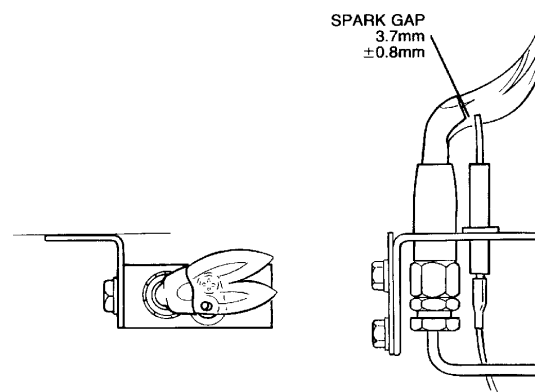

FIG. 30 PILOT BURNER SPARK GAP TOLERANCES PILOT FILTER
The pilot is pre-set and no adjustment is required. The pilot flame envelope should cover the electrode tip, see FIG. 30. If the pilot flame is not as illustrated, remove and clean the pilot as described in the Servicing Instructions Section 3, PILOT BURNER, Page 22.
- H. Ensure that the spark gap is as illustrated in FIG. 30.
6. Replacement is the reverse of removal. On reassembly ensure that the spark gap is as illustrated in FIG. 30.